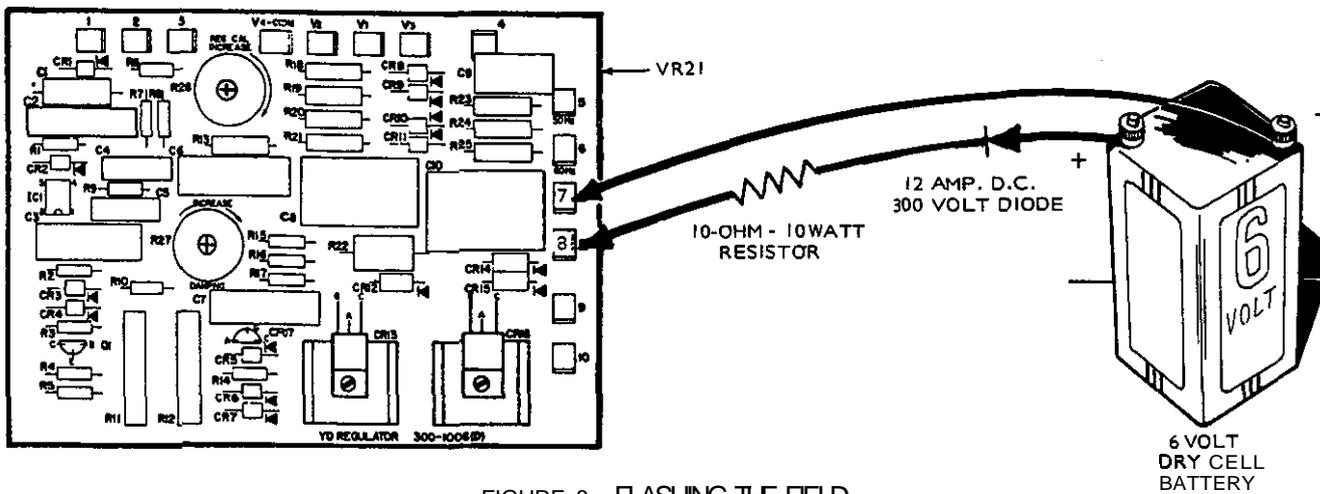

FIGURE 8. FLASHING THE FIELD
2. Use a six volt dry cell battery with two clip leads, a 12 amp DC, 300 volt avalanche diode, and a 10-ohm resistor as shown in Figure 8. If a six volt battery is not available, a 12 volt automotive battery can be used by increasing the 10-ohm resistor to 20-ohms; or a 24 volt automotive battery can be used by increasing the resistance to 40-ohms.